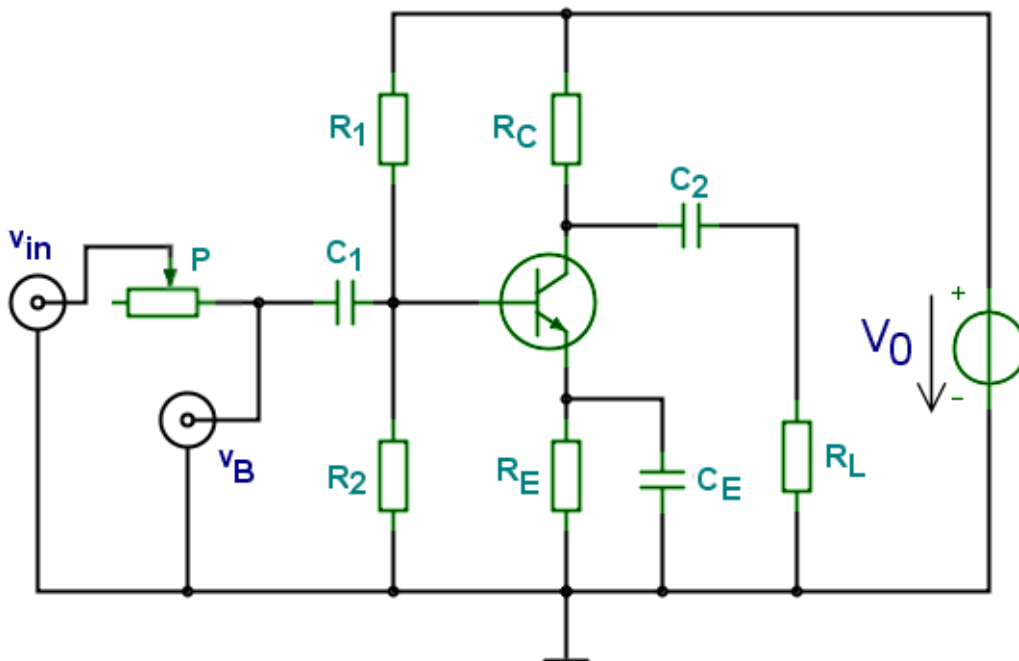

Figure 2.5 : Measuring the amplifier's dynamic input resistance
2.2.6 Put back C_E . (If you changed the input voltage, change it back to few mV!) Measure the input dynamic resistance of the circuit. To do this, put a $R_P=10\text{k}\Omega$ potentiometer in series with the input according to **figure 2.5**. Thus the input resistance of the amplifier and the potentiometer make a voltage divider. Now connect a multimeter in mV setting to v_{in} (that is the function generator's output). Using the multimeter, set up 20mV effective value (this is measured by the multimeter in AC setting) sinewave at 5kHz on the generator. Now remove the multimeter from the V_{in} , and put it to the base of the transistor (measure V_B , remember in AC mode!). Now change the potmeter until the value measured on V_B is 10mV. Now the potmeter and the input resistance of the amplifier circuit are equal, creating a 50-50% voltage divider. Remove the potmeter and measure its resistance between the two pin that were connected. This will be equal to r_{in} .